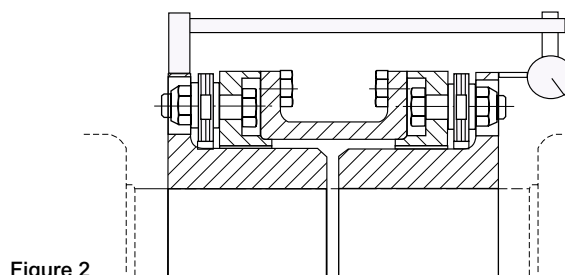

Figure 2
- D. **Angular Alignment** — Rigidly mount a dial indicator on one hub or shaft, reading the face of the other hub flange, as shown in Figure 2. Rotate both shafts together making sure the shaft axial spacing remains constant. Adjust the equipment by shimming and/or moving so that the indicator reading is within .001 inch per inch of coupling flange diameter. See Chart (A).